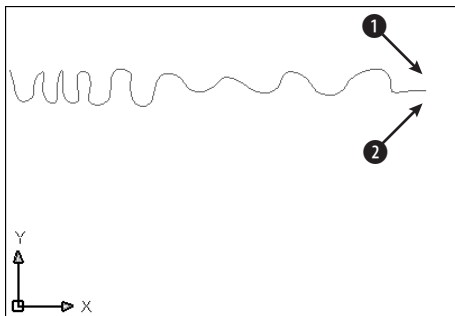

Figure 23-34: A spline
2. Save it as `ab23-06.dwg` in your `AutoCAD Bible` folder. You see a spline, as shown in Figure 23-34. In this exercise, you use the spline to draw some drapes.
3. Mirror the spline. For the mirror line, turn on `ORTHO` and use ❶ and ❷ as shown in Figure 23-34. Don't delete the original spline.